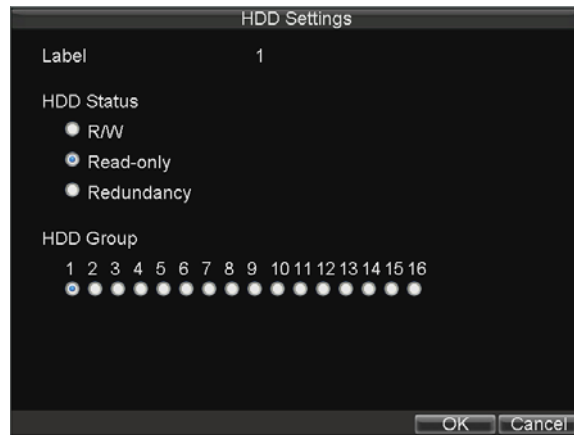

Figure6. HDD Settings Menu
3. Select the *Set* button to enter the HDD Settings menu, as shown in Figure 6.
3. Select the Set button to enter the HDD Settings menu, as shown in Figure 6.